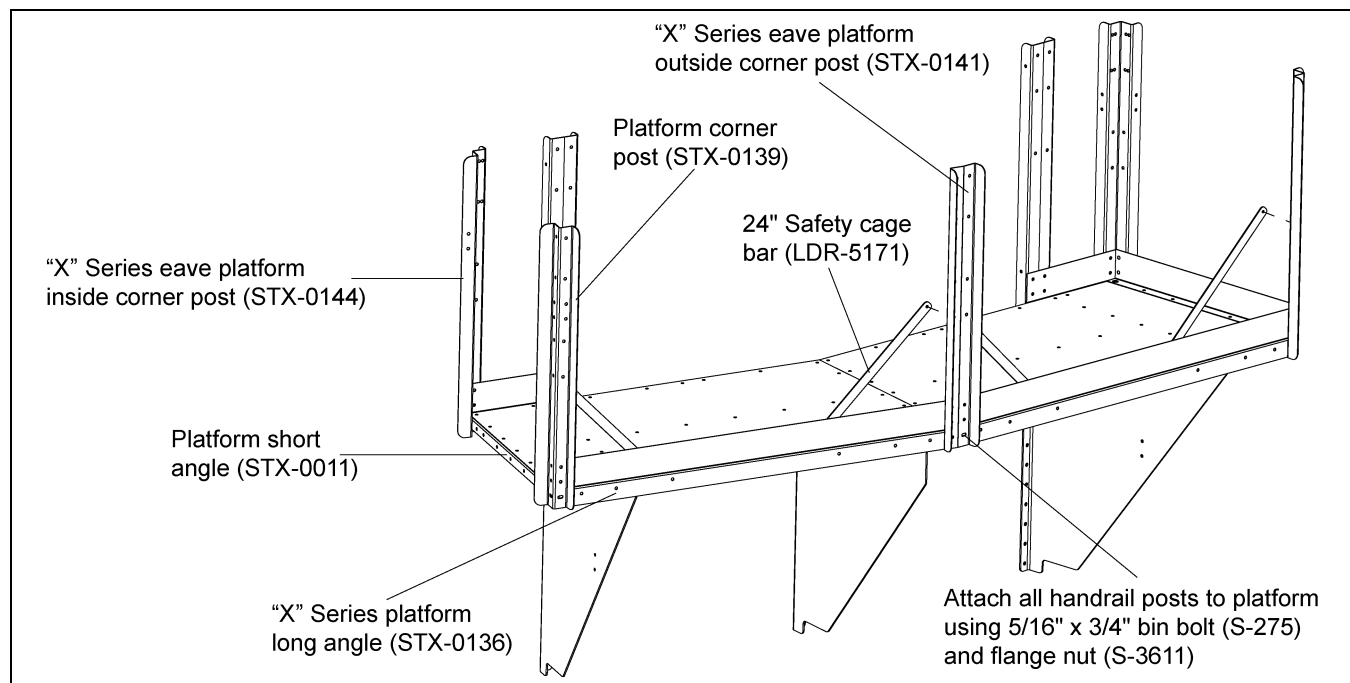

Figure 4O
2. Figure 4O shows the assembly of the platform post. This must all be assembled at the same time using 5/16" hardware. **NOTE:** 24" Safety cage bars are mounted to the inside of the post and the outside of the platform long angle.